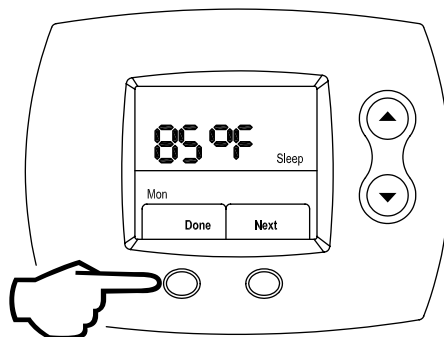

Figure 74
Step 27: Press the **LEFT** (Done) button to finish the Setback schedule, as shown in Figure 74.